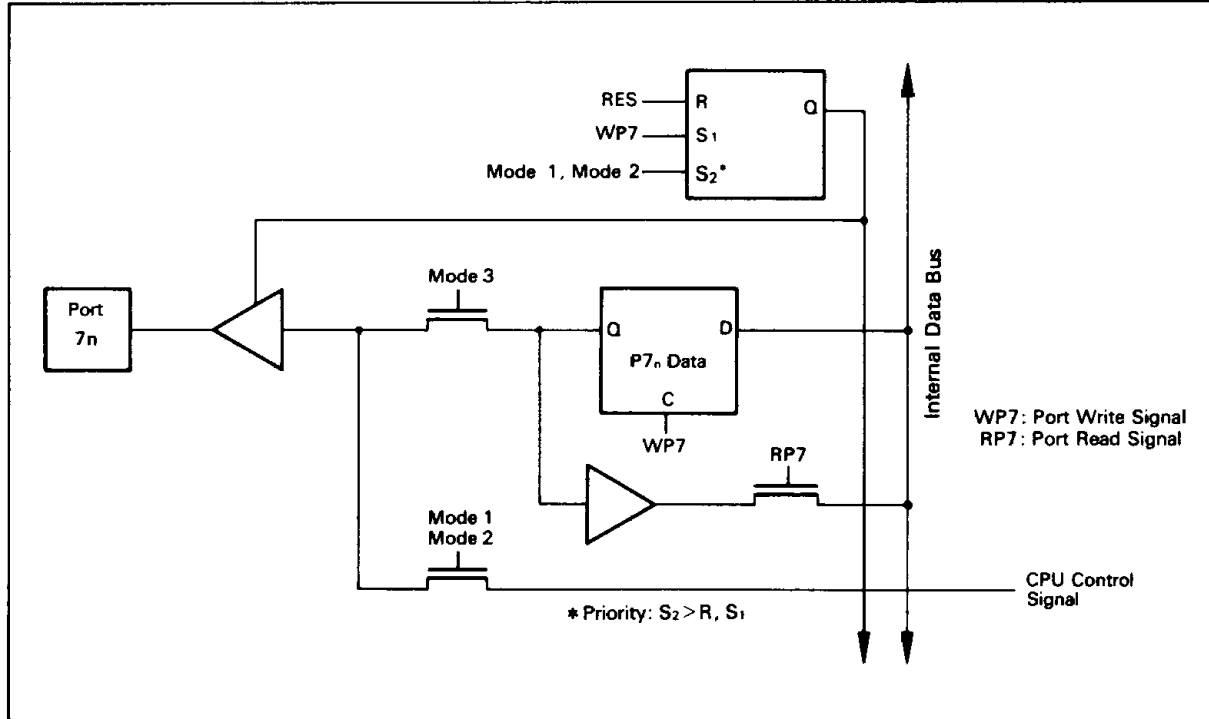

Figure 24. Port 7 Block Diagram
**Port 7** : Port 7 is a 5-bit output only port (figures 24, 25). In the expanded modes (1 and 2), port 7 outputs control signals from the CPU. Port 7 goes